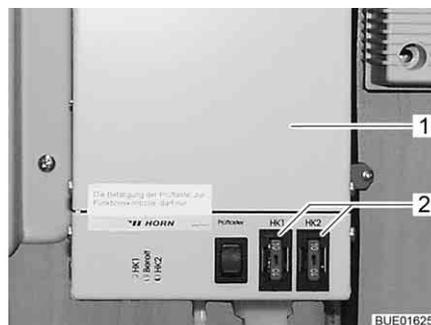

Fig. 106 Heater regulation for waste water pipes
The fuses are located on the regulator (Fig. 106,1).
- Replace fuse (Fig. 106,2).